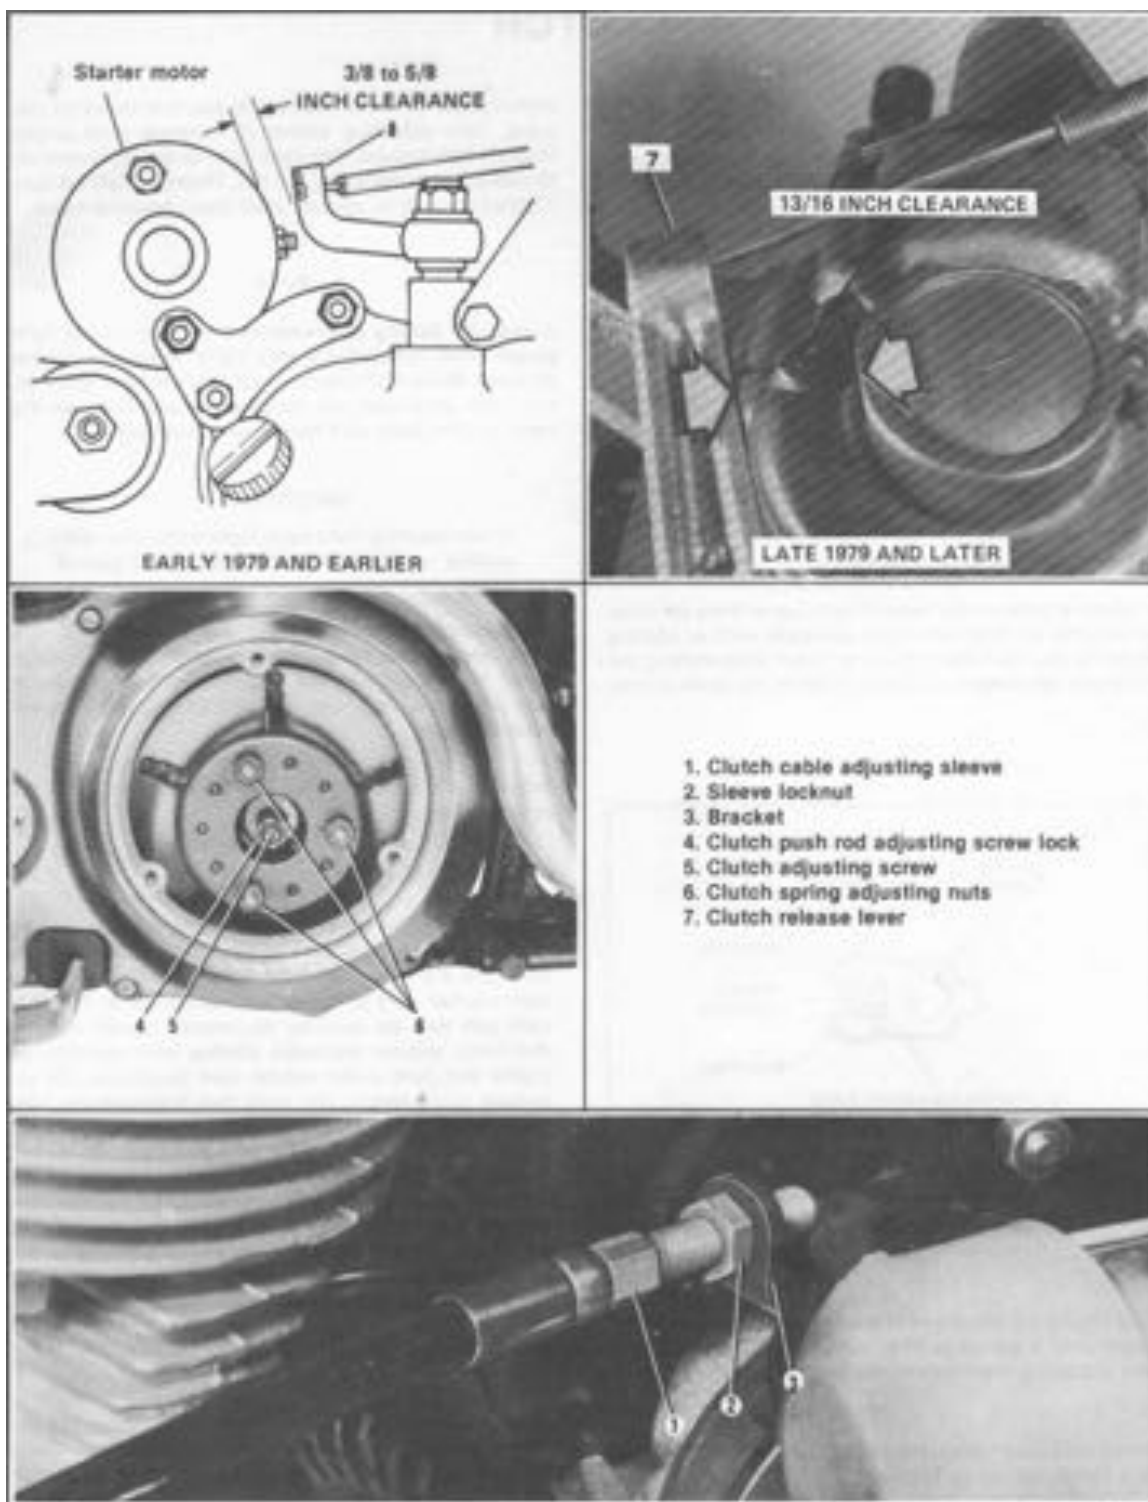

Figure 4-2. Adjusting Clutch
### ADJUSTING HAND CLUTCH LEVER (Figure 4-2)
See Figure 4-2. Move end of lever (7) on transmission forward until it becomes firm, indicating that all slack in the actuating mechanism has been taken up.
Measure clearance as shown in Figure 4-2. If not within this range, adjust as follows:
Loosen control coil adjusting sleeve locknut (2, Figure 4-2) and turn control coil adjusting sleeve (1) all the way into bracket. Remove chain housing cover, loosen
If the clutch slips after adjusting clutch controls, increase spring tension on the three clutch spring guide stud nut (6, Figure 4-2). Remove clutch cover and tighten all three nuts one-half turn at a time until clutch holds. Test after each half turn by cranking the engine. Usually a clutch that holds without noticeable slipping when cranking the engine will hold under normal road conditions. Do not increase spring tension any more than is necessary to make clutch hold.